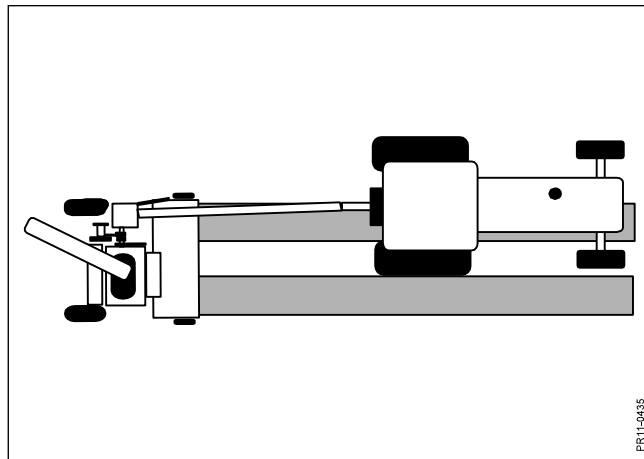

Fig. 6-10
- Fig. 6-10** 2) The chopper now works semi-offset as the tractor drives with one set of wheels between the swaths. This technique results in a straight drive line and is suitable for unloading to both sides. The parallel driving tractor can get closer to the chopper and it is easier to control the loading of the trailer.